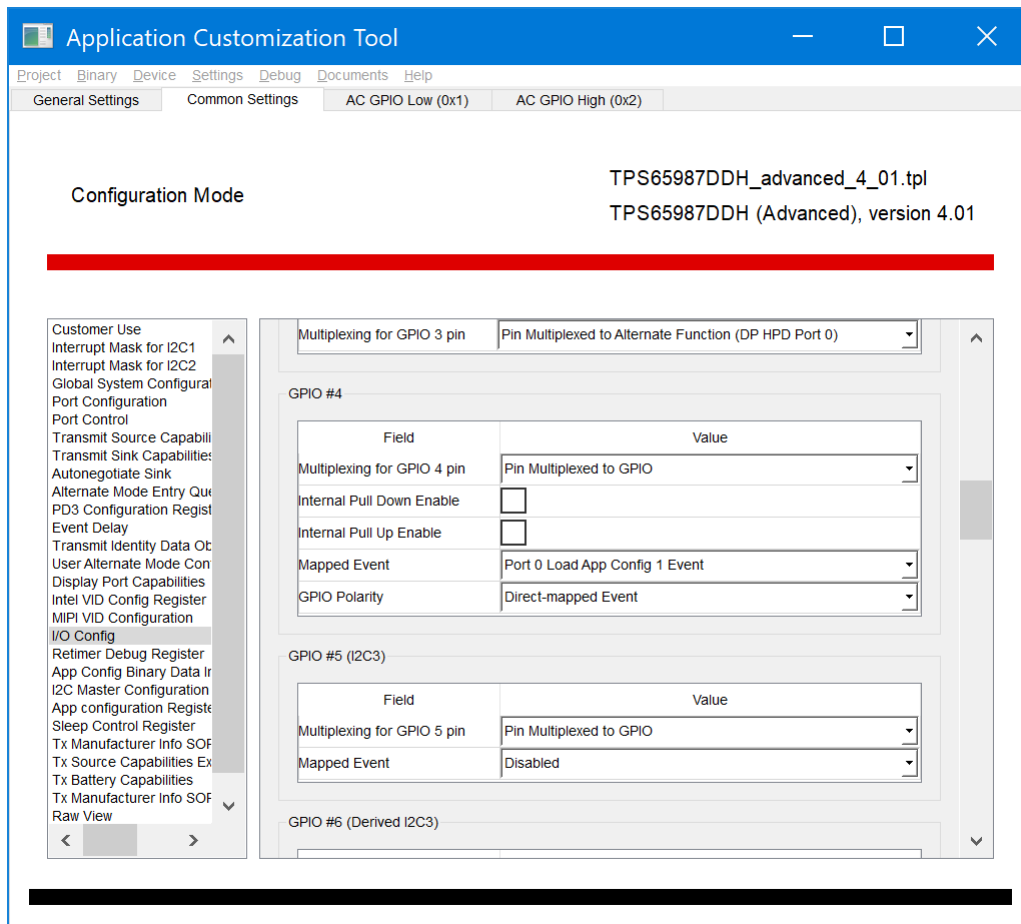

Figure 8. Map Load App Config Set 1 to GPIO 4
6. Map Load App Config Set 1 to GPIO4 as shown in Figure 8.